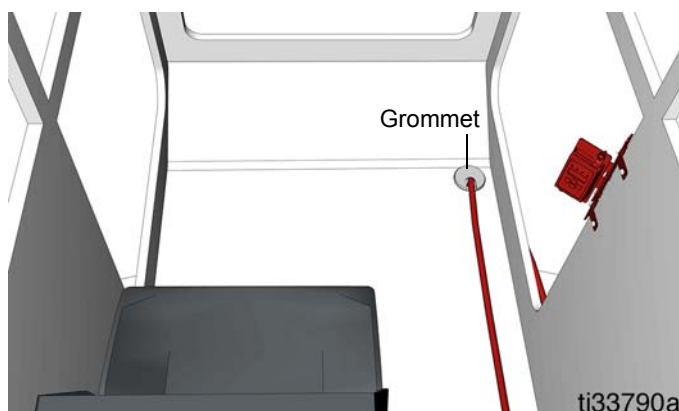

FIG. 14
1. Route the power cable from the pump through the body of the machine and under the cab to protect it from the environment and to aid in wiring into the cab. For installations utilizing a proximity switch and a GLC2200 controller, route the prox cable along the same path as the power cable (FIG. 14).
2. Route the power cable into the cab through the rubber grommet located under the floor mat (FIG. 14).